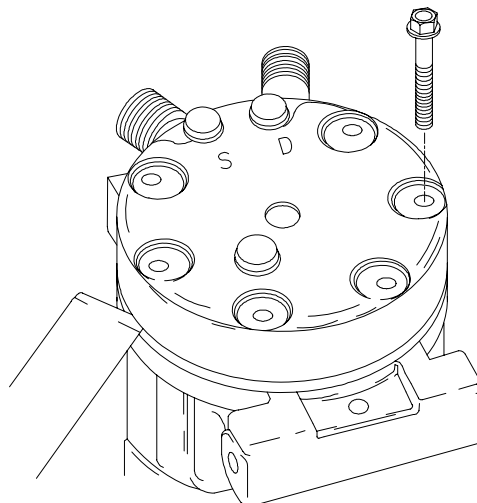

Figure 23 Cylinder Head Removal
50. **Cylinder Head Removal.** To remove the compressor cylinder head, proceed as follows (refer Figure 23):